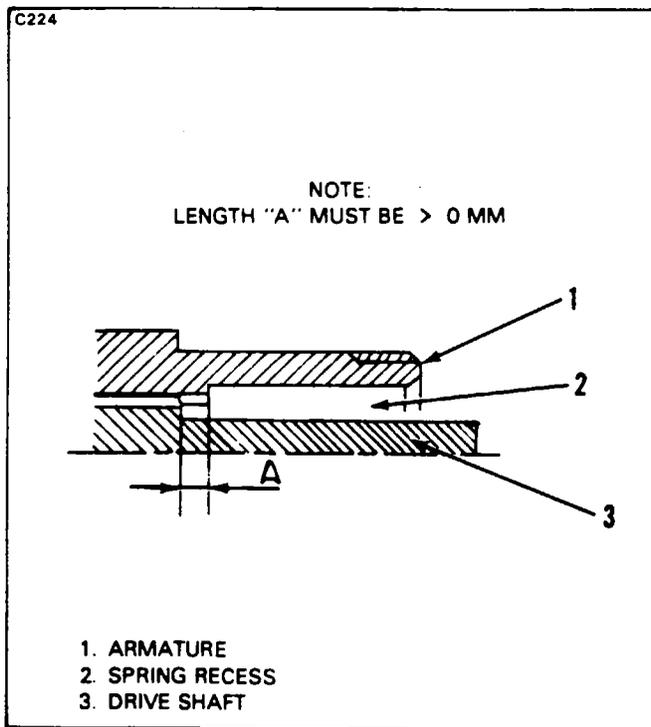

Figure 24-6. Dimension Check of Shaft Drive Sinking
29. Check that the end of the spline of the drive shaft is not engaged inside of spring recess. (See length A. Figure 24-6).
*If the drive shaft is not located as shown on Figure 24-6, check damper disks, to see that they are not distorted and that they are properly fitting on their own support.*
35. Block drive shaft in order to prevent its rotation by maintaining it with damper disk, then tighten nut to obtain the dimension C as shown in Figure 24-6.